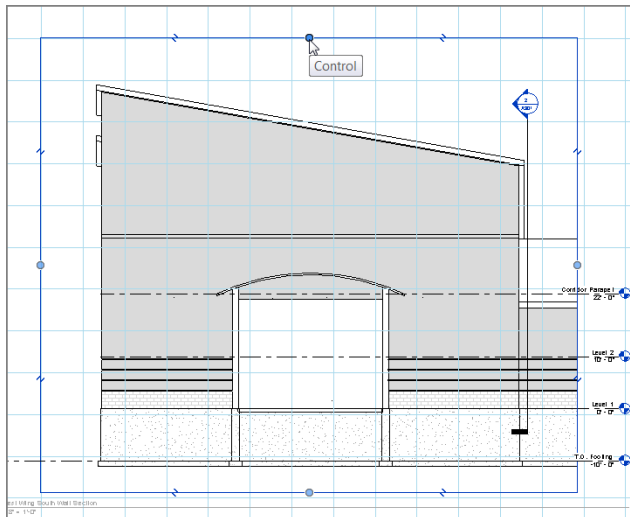

FIGURE 14.12: Stretching the crop region so you can see the entire view
5. With the view activated, you can work on it just as if you had opened it from the Project Browser. Select the crop region, as shown in Figure 14.12.